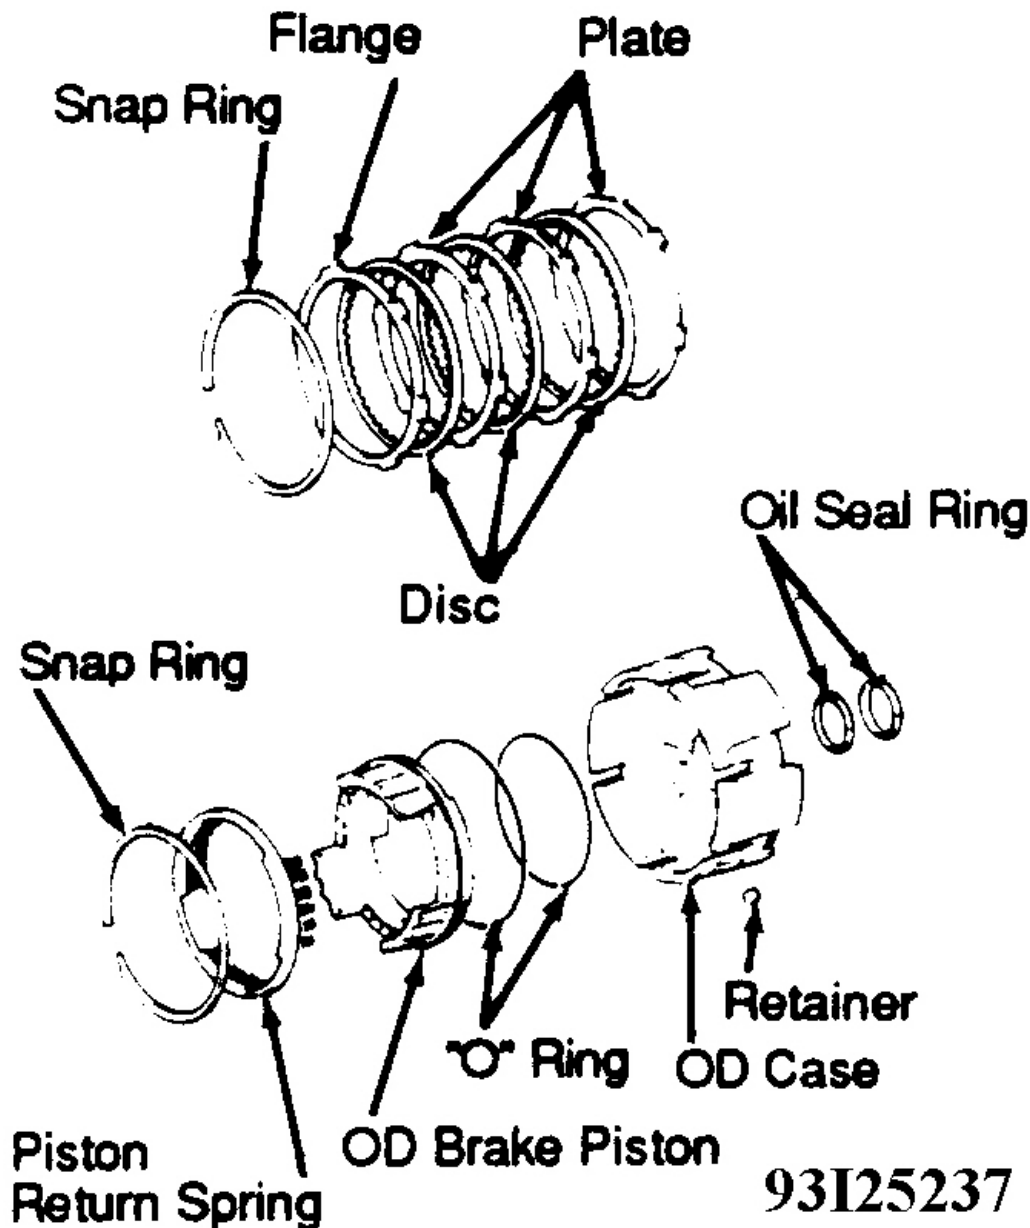

Fig. 24: Exploded View Of OD Brake
5. Place OD case on rear clutch. Using Measure Terminal (09350-06120) and dial indicator, measure piston stroke by applying compressed air. Piston stroke should be .0492-.0728" (1.25-1.850 mm). If piston stroke is less than specified, parts may have been assembled incorrectly. Check and reassemble again. Using needle nose pliers, install 3 ring retainers into oil holes of OD case. See **Fig. 24**.